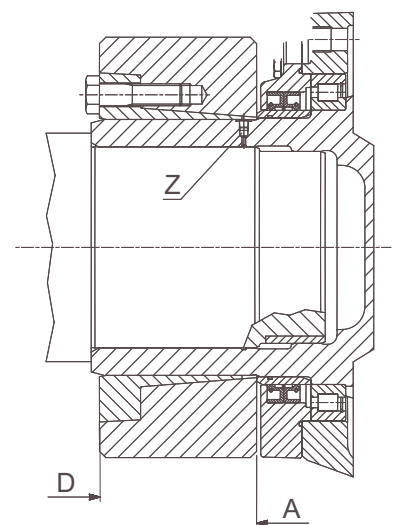

Fig. 2
- Refit cap "Z" (see fig. 2), then position the coupling (see fig. 2 point A)
- When the fitting of the coupling has been completed correctly, check the assembly visibly to make sure that the front surfaces of the internal and external rings are on the same plane (see fig. 2 point D).
- Before reinstalling the overhauled coupling, top up with lubricant in the zones marked “C” (see fig. 2).